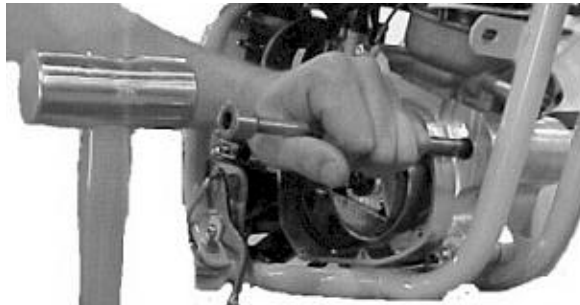

Figure 23
12. Heat engine case around area of impeller lightly with a small Burnsmatic propane torch. Using a 3/8" diameter x 8" long steel rod, tap impeller assembly out of engine as shown in figure 23.